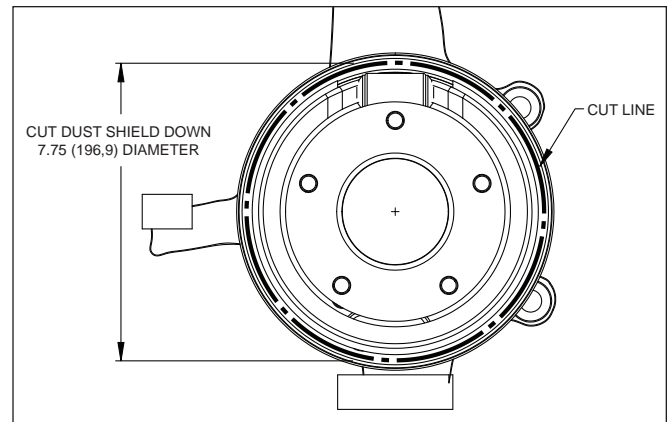

Figure 3. Backing Plate / Dust Shield Modifications
- The rear backing plate/dust shield needs to be modified as shown in Figure 3 to clear the new Wilwood rotor (5). **NOTE:** It is recommended that the backing plate be removed before modification, and the modifications be performed by a qualified machine shop. Cut the dust shield to 7.75" diameter as shown in Figure 3.